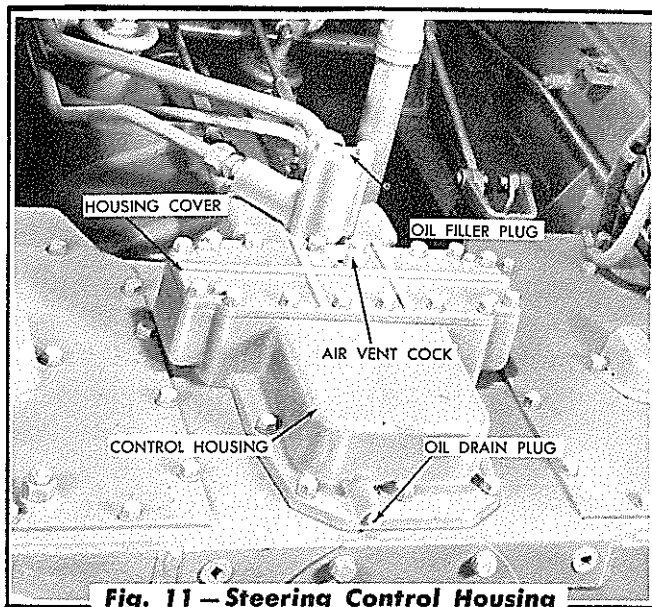

Fig. 11 - Steering Control Housing
Drain the hydraulic system by removing the drain plug located at the rear of the control housing. Open the air vent cock located in the top of the housing cover when draining (refer to Fig. 11).
2. Remove the oil filler plug located in the top of the tube connection manifold attached to the control housing (refer to Fig. 11). With the air vent cock open, fill the housing, through the filler plug opening, with the specified lubricant.
7. Repeat, items 5 and 6 above, until further operation does not lower the oil level in hydraulic steering pump adapter. *IMPORTANT: Make certain that the hydraulic system is kept clean when servicing.*
12. Install the oil drain plug in the control housing and open the air vent cock located in the top of the control housing cover. Remove the oil filler plug in the top of the tube connection manifold (refer to Fig. 11). Fill the control housing, through the filler plug opening, with the specified lubricant. Close the air vent cock and install the oil filler plug in the tube connection manifold.